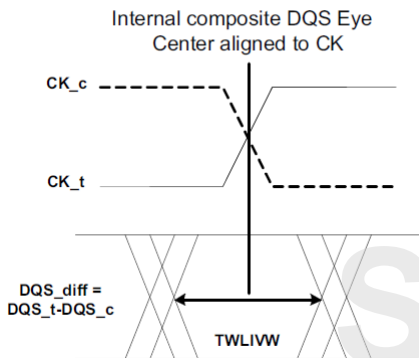

Figure 25. DQS_t/DQS_c to CK_t/CK_c timings at the DRAM pins referenced from the internal latch
28) t_{WLIW} is defined in a similar manner to $tdIVW_Total$, except that here it is a DQS input valid window with respect to CK. This would need to account for all VT (voltage and temperature) drift terms between CK and DQS within the DRAM that affect the write-leveling input valid window. The DQS input mask for timing with respect to CK is shown in Figure 25. The "total" mask (t_{WLIW}) defines the time the input signal must not encroach in order for the DQS input to be successfully captured by CK with a BER of lower than t_{bd} . The mask is a receiver property and it is not the valid data-eye.